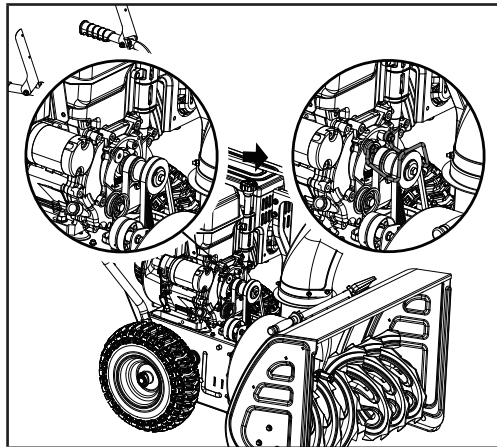

Figure 40
- Place the belt guard back into place and install the bolts (20 mm/30 mm) that were removed earlier. Once reinstalled, make sure there is equal distance on both sides between the pulley and the guard (Fig. 40).